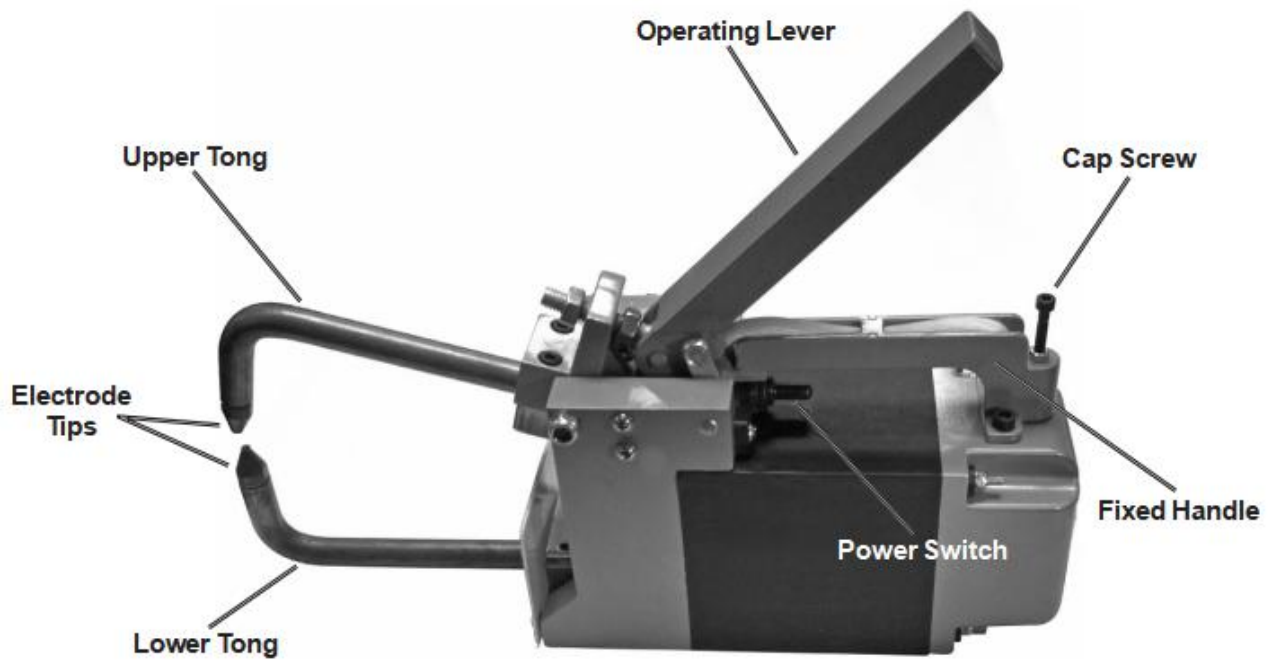

Figure 3-8
4) Adjusting the Cap Screw at the rear of the Fixed Handle will determine how firmly the Tongs apply pressure to the workpiece. The farther down the Cap Screw is turned, the farther down the Operating Lever will close and the more Tong pressure will be applied. Adjust the Cap Screw to allow the Operating Lever to be raised easily after completion of the welding process. See Figure 3-8.